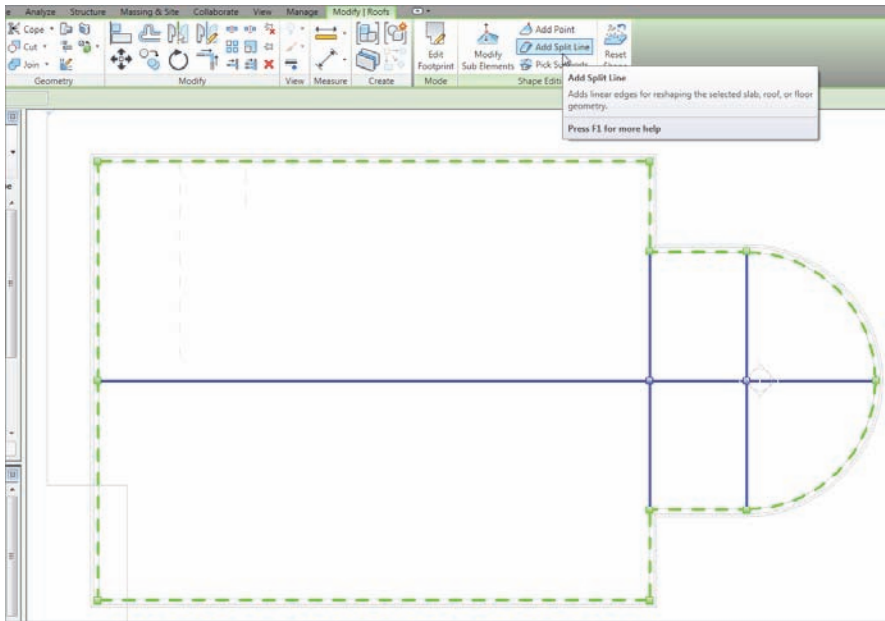

FIGURE 7.9 Drawing a new ridge from the two points shown
9. Click the Add Split Line button and draw a ridge across the entire length of the building, from point 1 to point 2, as shown in Figure 7.9.